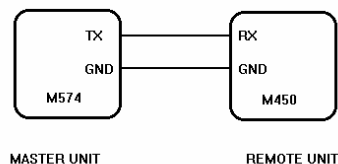
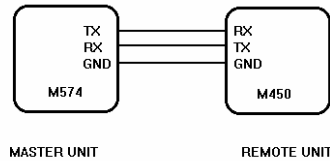

Figure 57 Remote display connections (standard) from 574 to 450 or 550.
Figure 59 Remote display connections for Remote Keys (450 or 550)
<ZERO> on the 450 unit will transmit a serial command to the 574 specific to performing a zero operation. Note that bi-directional capabilities must be fully intact. The 550 units COMM receive input must be **ON**. A TX, RX and GND cable must be connecting both units COMM Ports. Both the master and remote unit must be setup for **software** handshaking (Xon). This will allow the master unit (550) to transmit its display information while allowing the slave unit (450) to remotely send serial key commands. Refer to figure 59 for Remote Key operation connections. Figure 57 illustrates standard Remote Display operation connections without remote key operation. The master unit must be set for **NO** handshaking.